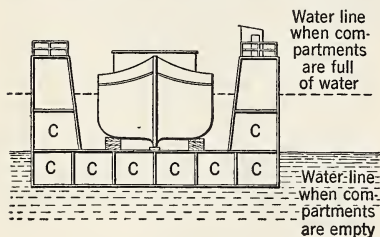

FIG. 54. A floating dry dock.
12. A floating dry dock has 8 compartments (Fig. 54), each 12 ft. \times 12 ft. \times 1000 ft. long. How heavy a vessel can this dry dock float?